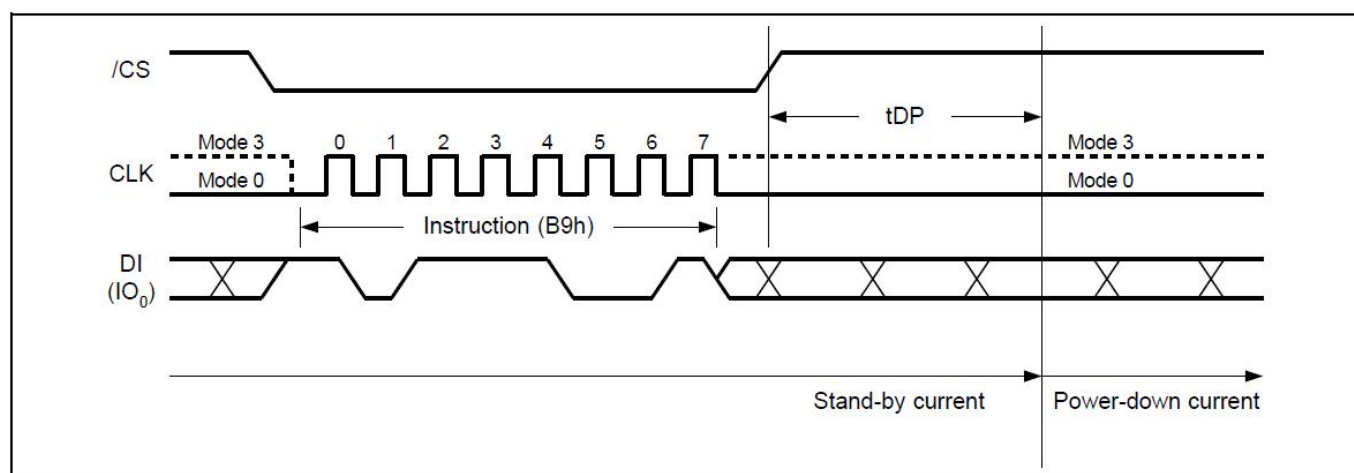

Figure20. Deep Power-Down Sequence Diagram
The Deep Power-Down Mode automatically stops at Power-Up, and the device always in the Standby Mode after Power-Up. The Deep Power-Down command sequence: CS# goes low → sending Deep Power-Down command → CS# goes high. The command sequence is shown in Figure20. CS# must be driven high after the eighth bit of the command code has been latched in; otherwise the Deep Power-Down (DP) command is not executed. As soon as CS# is driven high, it requires a delay of t_{DP} before the supply current is reduced to IDPD and the Deep Power-Down Mode is entered. Any Deep Power-Down (DP) command, while an Erase, Program or Write cycle is in progress, is rejected without having any effects on the cycle that is in progress.